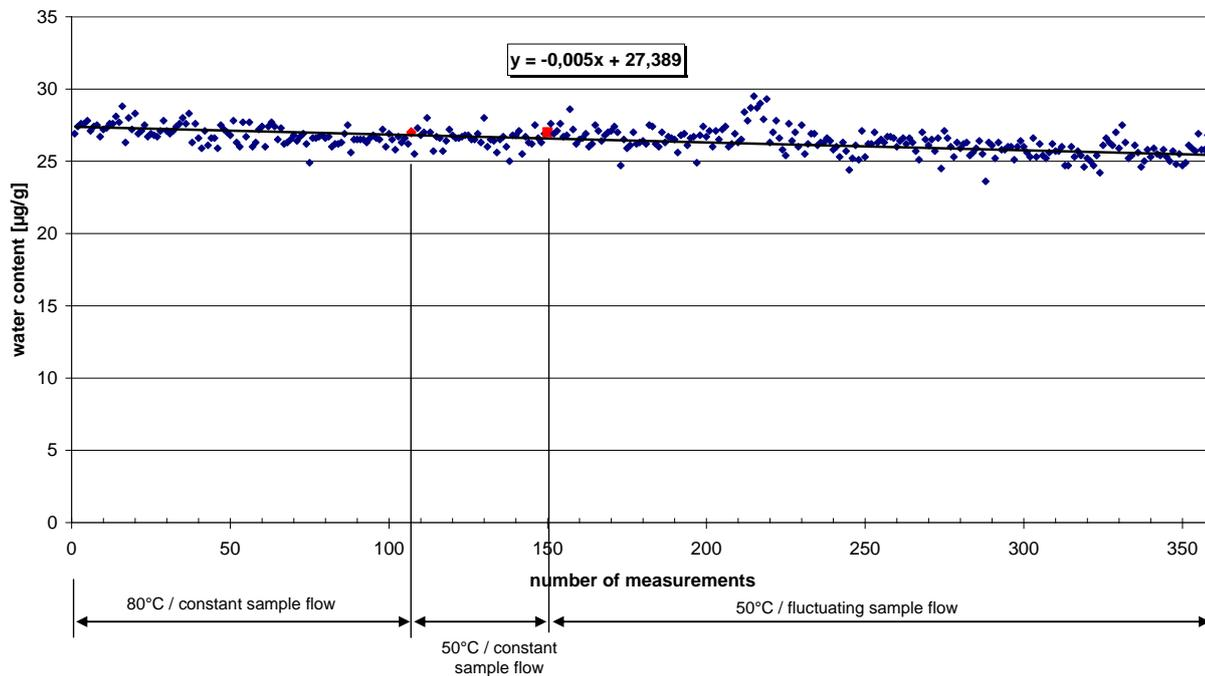

Figure 2: Measured water contents during long-term test
The mean value of the 360 determinations was 26.5 µg/g with a standard deviation (SD) of 0.8 µg/g (rel. SD: 3.2%) (Figure 2).